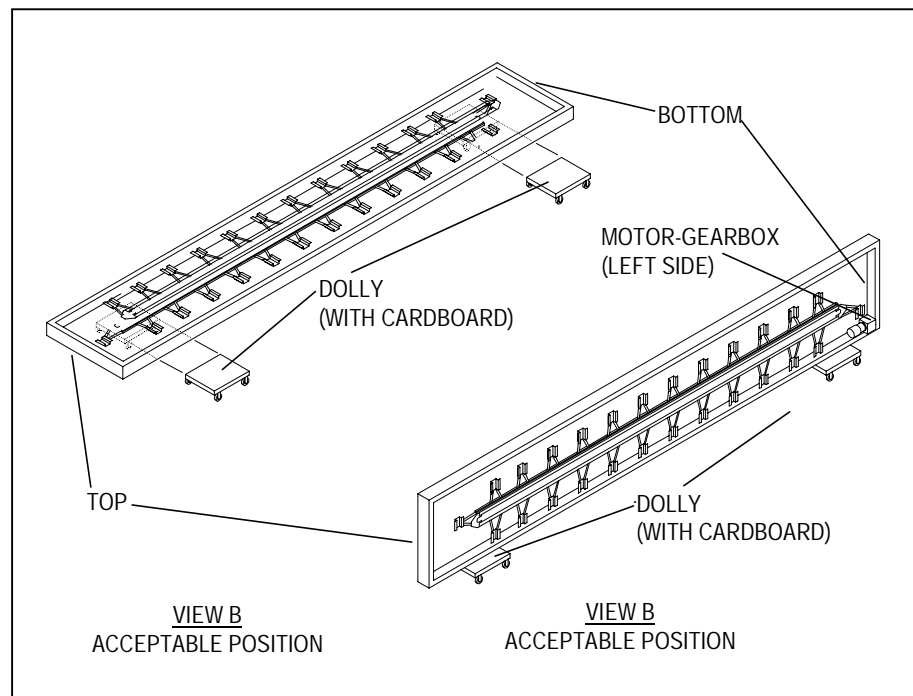

Figure 8. TRANSPORTING SIDES
10. Lower the side onto two padded dollies. Position the dollies below the chain sprockets (see Figure 8).